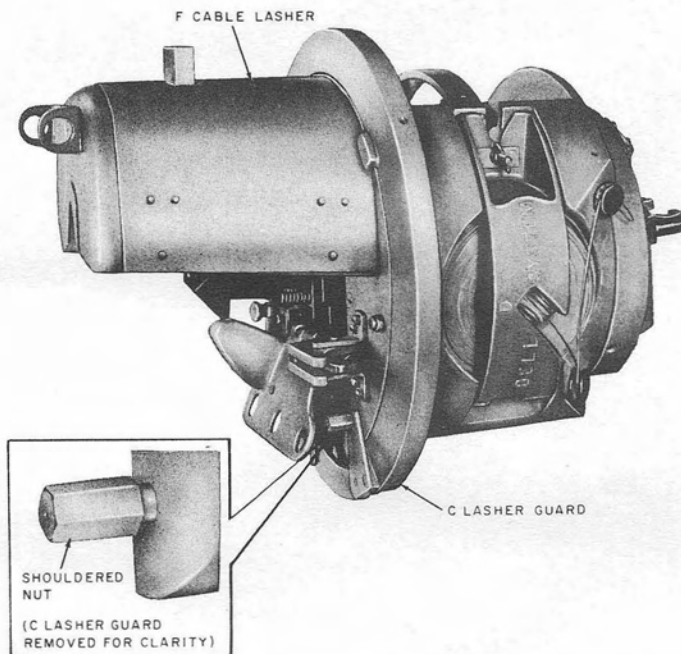

Fig. 16—C Lasher Guard Installed
7.06 The C lasher guard installed on an F cable lasher is illustrated in Fig. 16.